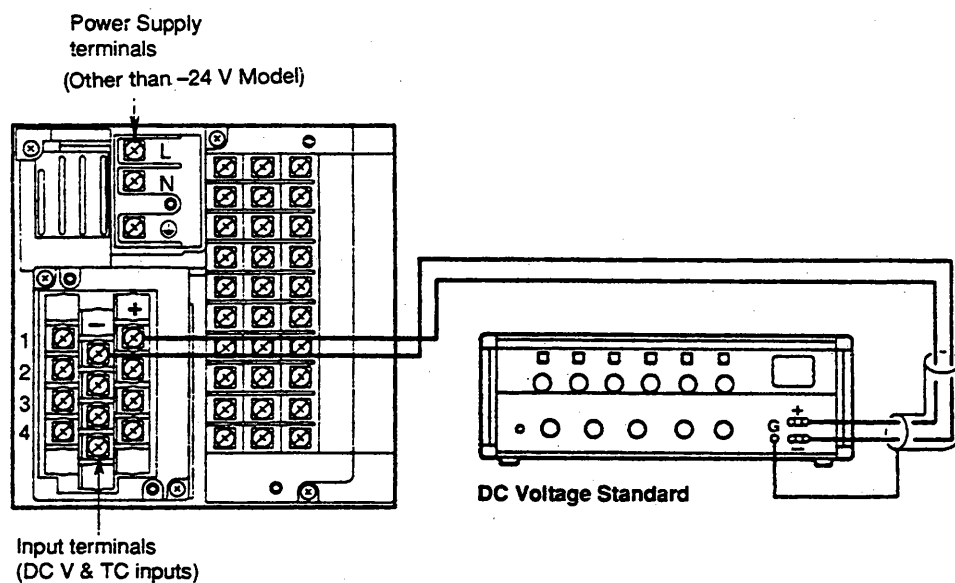

Figure 9-4. dc Voltage Measurement
1. Connect the calibration instrument to the input terminals of the recorder, as shown in Figures 9-4, 9-5, 9-6, and 9-7 and allow the recorder to warm up for at least 30 minutes. (Allow the instrument to warm up according to its specifications.)
Figure 9-4 shows the pen model; however, connections should be done in the same way for the dot model.